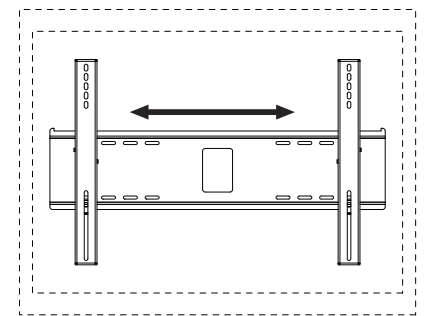

fig 7.2
**Screen Adjustment:** Screen can be adjusted horizontally by loosening security screw three full turns using allen wrench (L). Adjust screen as shown in figure 7.2. Tighten security screw.